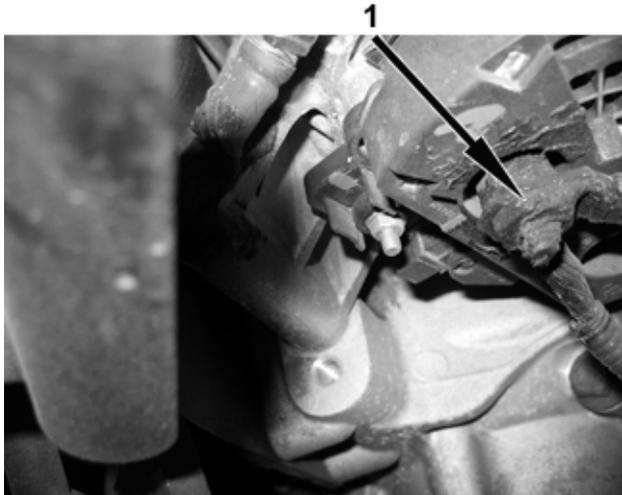

Figure 18
5. Remove alternator harness positive cable securing nut (Figure 18).